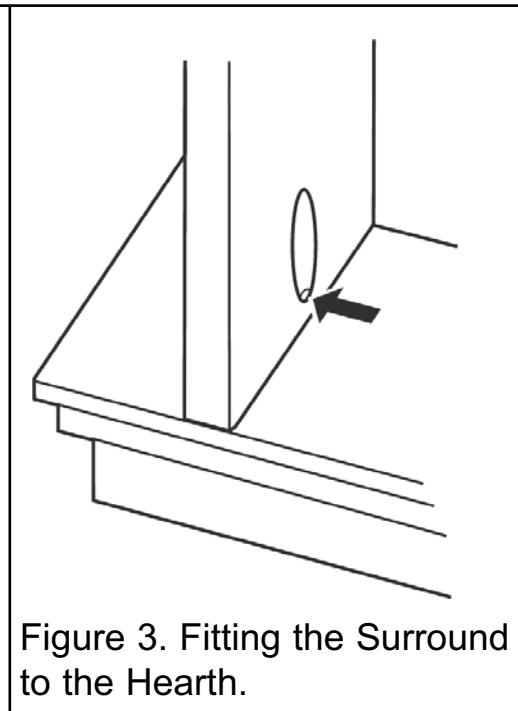

Figure 3. Fitting the Surround to the Hearth.
- Lay the hearth (B) on the floor. Stand the surround (A) on top of the hearth. Position the surround so that it is central to the hearth and the rear of the surround legs are flush with the back of the hearth.
- Secure the surround to the hearth using four screws (E) through the holes in the wooden blocks (See figure 3).